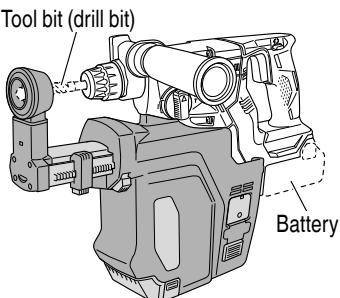

Fig. 2
### 1. Attaching and removing the dust extractor system (Fig. 2, 3, 4)
- When attaching, removing, or adjusting the dust extractor system, in order to prevent an unlikely accident, be sure to turn off the tool's switch, and remove the tool's battery and tool bit. (Fig. 2)